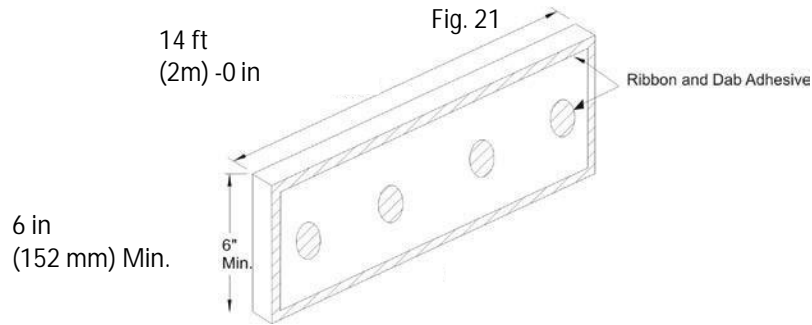

Fig. 23
8. Tops of walls, sills of continuous windows and other horizontal system terminations are terminated using 6 in or 12 in x 48 in (152 mm or 305 mm x 1.2 m) closure blocks. These are adhered to Backstop NTX using a ribbon and dab adhesive pattern as shown in the Figure 23.